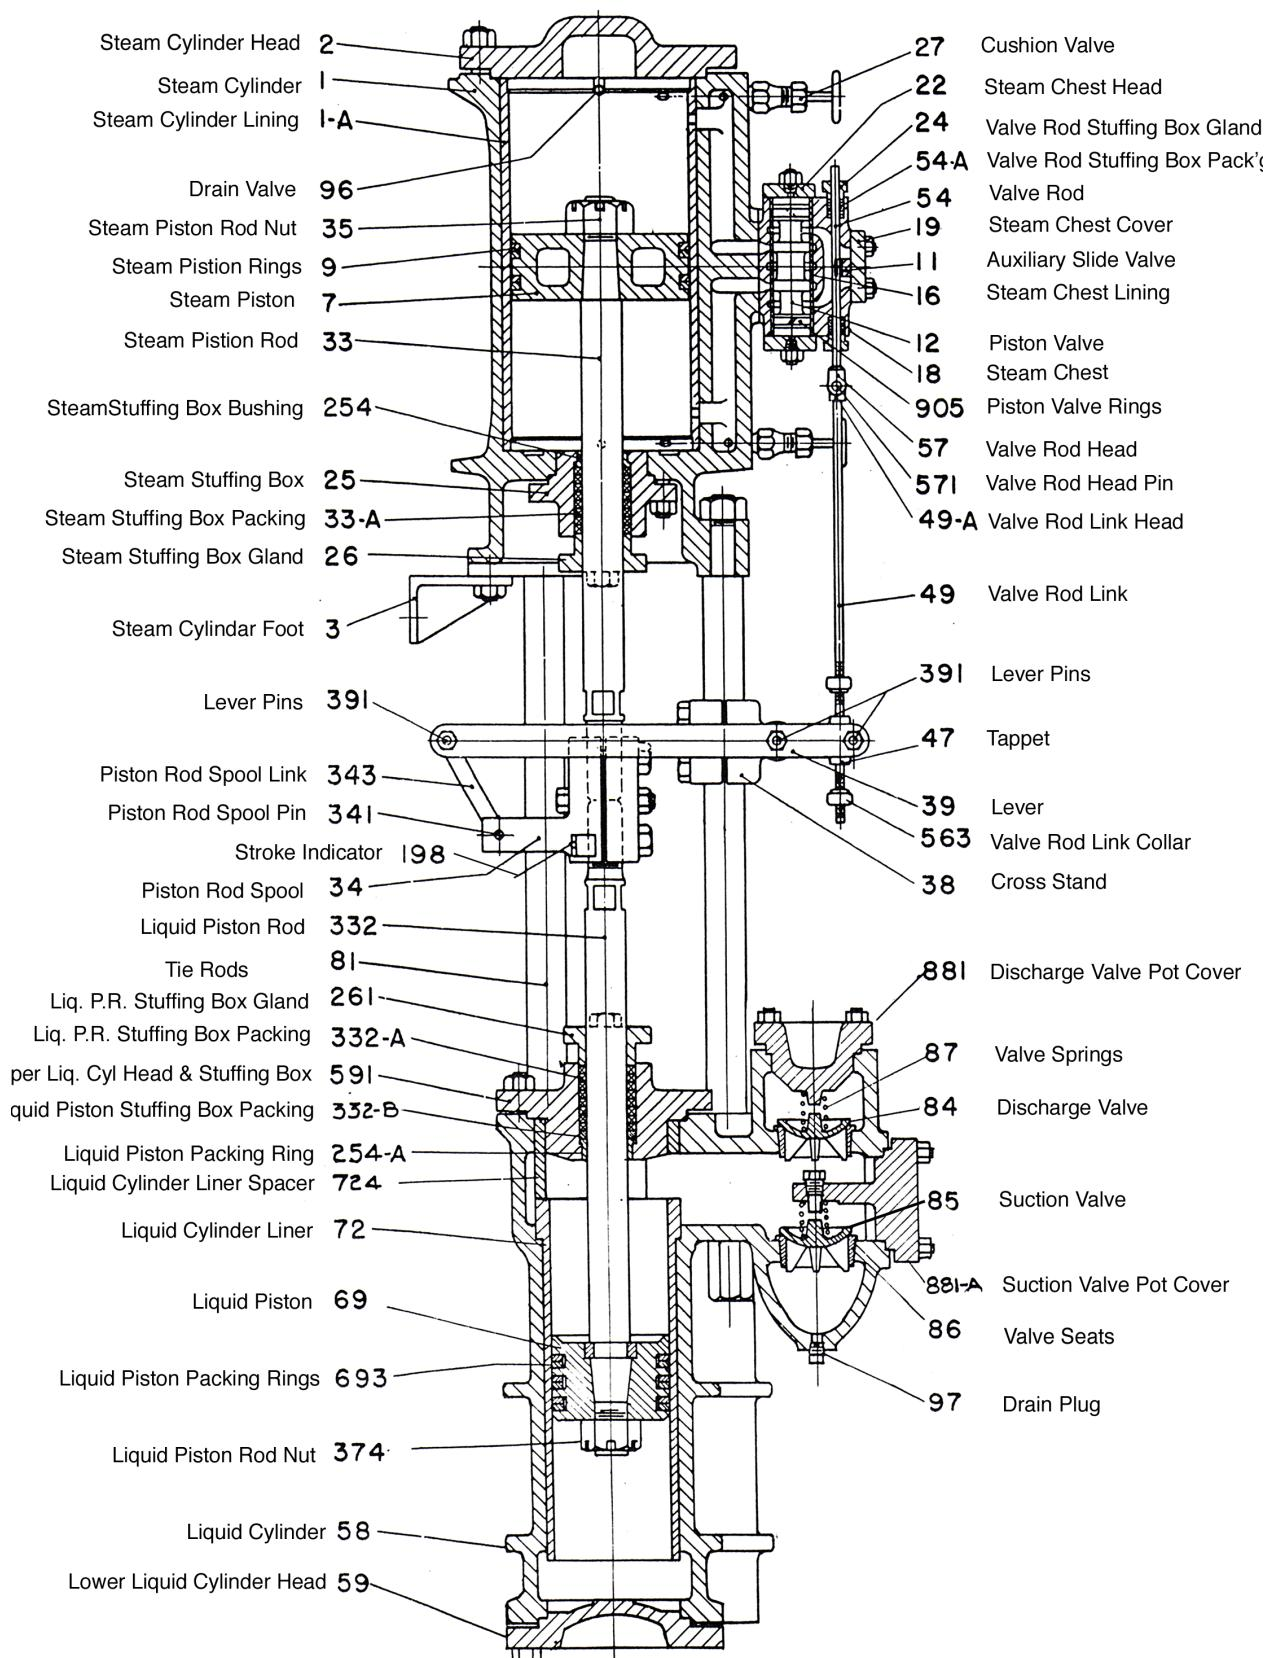

Figure 5.3.7 Simplex Reciprocating Pump
Figure 5.3.7 shows a steam driven reciprocating pump. The steam piston (7) is driven up and down by steam, delivering power to the liquid piston, or (69), which pumps the liquid. When the liquid piston (69) is moved down, the area above the piston is on a suction stroke. As the piston moves down in cylinder (72), the increase in cylinder volume causes a decrease in cylinder pressure. When the pressure in the cylinder drops below atmospheric pressure (creating a vacuum in the cylinder), the atmospheric pressure on the liquid in the suction tank forces the liquid up the suction pipe, through suction valve (85) and into the cylinder. Atmospheric pressure plus the liquid pressure in the discharge pipe create a pressure higher than the pressure in the cylinder. This holds the discharge valve (84) closed. When the piston begins to move up on the discharge stroke, a decrease in cylinder volume occurs, attempting to compress the liquid. This results in an increase in liquid pressure in the cylinder. As soon as the cylinder pressure exceeds the pressure in the suction pipe, the suction valve (85) is forced closed. As the piston continues to move up, the liquid pressure in the cylinder continues to rise. When the liquid pressure in the cylinder exceeds the pressure in the discharge pipe, the discharge valve (84) opens and fluid flows from the cylinder into the discharge line. This process repeated many times can build up a considerable discharge head (pressure) on the discharge side of the pump.